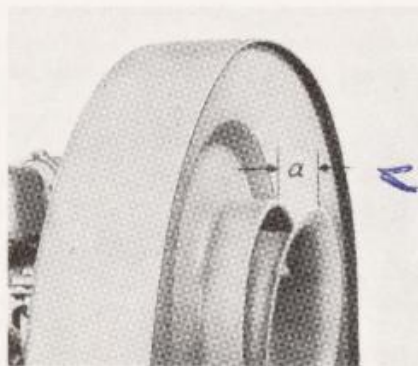

Fig. D-5. Thermostat adjustment on older "Beetle" models must result in approximately 1 in. opening at fan ring at normal operating temperature.
On older models, the cooling fan draws air through an opening in the center of the fan housing fitted with a thermostatically controlled ring, Fig. D-5. The quantity of air flow is controlled by the amount the fan ring opens. It is obvious that proper adjustment of this throttle ring is
- 3 - Adjust throttle ring so that it opens 1 in., Fig. D-5.